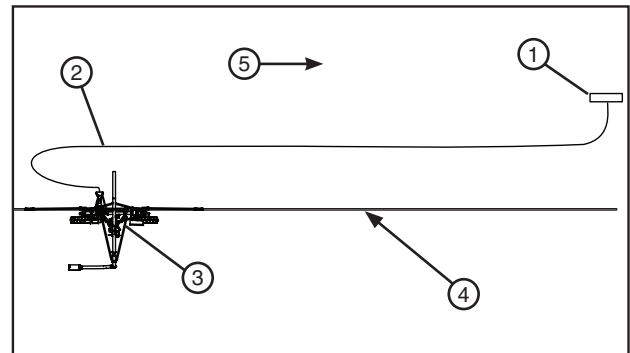

Figure 75-2 1. Power Pedestal
- (c) Position the electric cord between the cart and power pedestal so that it does not interfere with the furrow guidance arms if applicable. See figure 75-2.